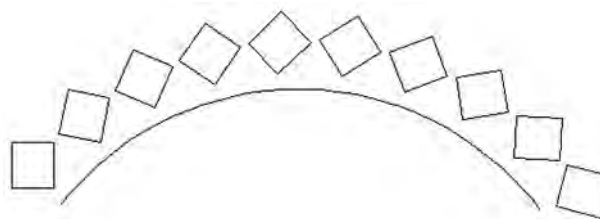

FIGURE 8.20
Step 5. You have essentially created the basic path array, but you can do a tremendous amount of modification to this basic layout. The easiest way to modify it is via the Ribbon. Under the Items: tab you have the most basic of the “mods,” such as total number of items and the distance between them. Also note how you can alter the path array via dynamic movement of the grips. Be sure to keep the array associative, as with the previous examples. The completed array is seen in Figure 8.20.